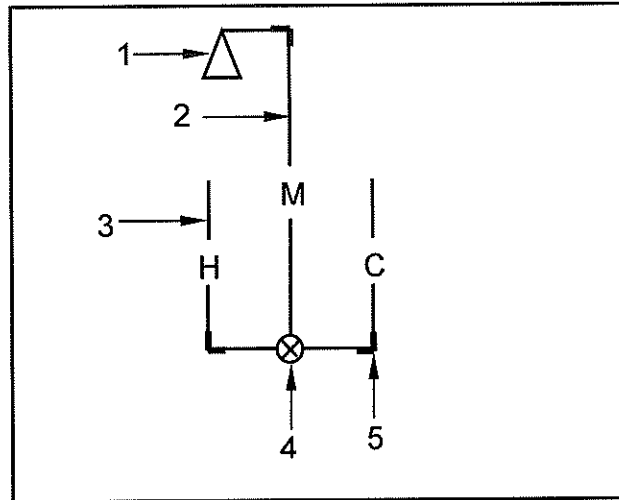

FIGURE 3.4
3.4 FIGURE 3.4 below shows part of the layout of a water supply to be used in the bathroom.